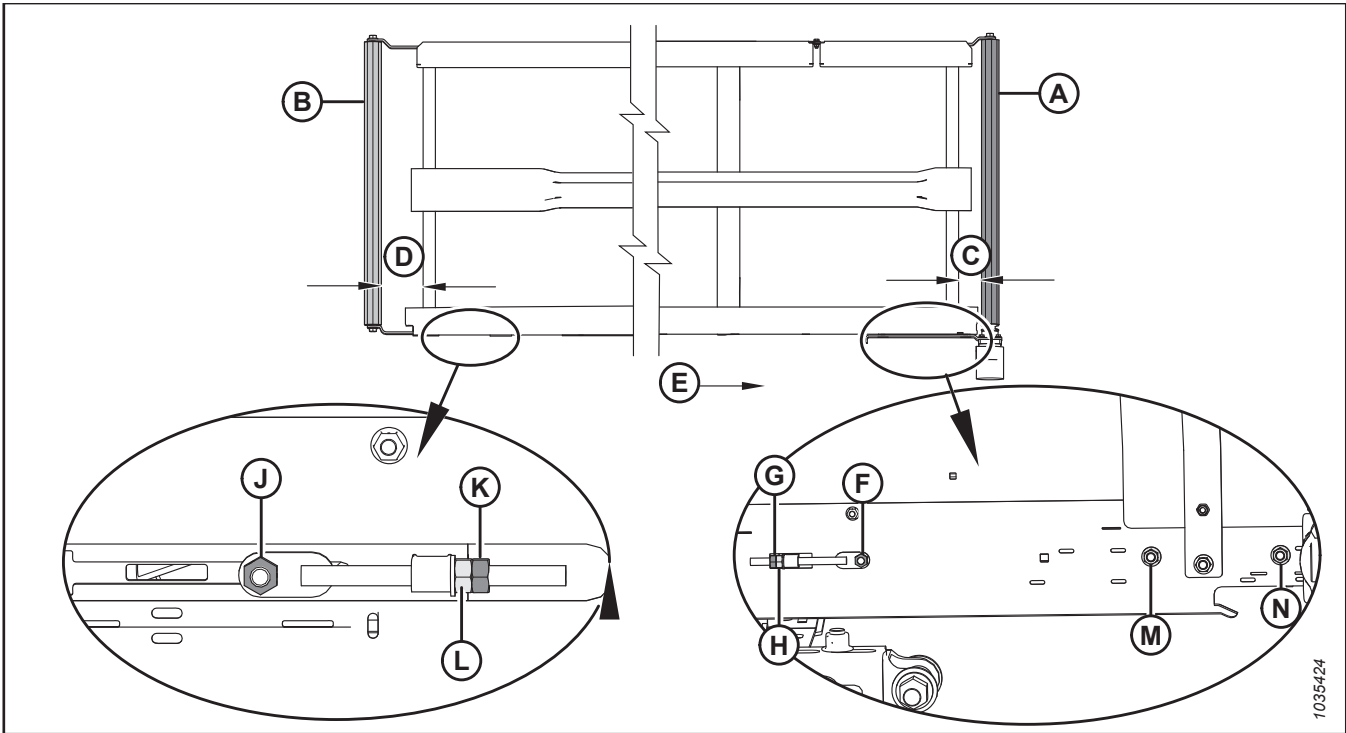

Figure 4.247: Draper Tracking Adjustments – Left Draper
2. Adjust drive roller (A) to change **C** (refer to Table , page 366 and Figure 4.247, page 366) as follows:
- a. Loosen nuts (F), (M), and (N), and jam nut (G).
- b. Turn adjuster nut (H).
- c. Tighten nuts (F), (M), and (N), and jam nut (G).
3. Adjust idler roller (B) to change **D** (refer to Table , page 366 and Figure 4.247, page 366) as follows:
- a. Loosen nut (J) and jam nut (K).
- b. Turn adjuster nut (L).